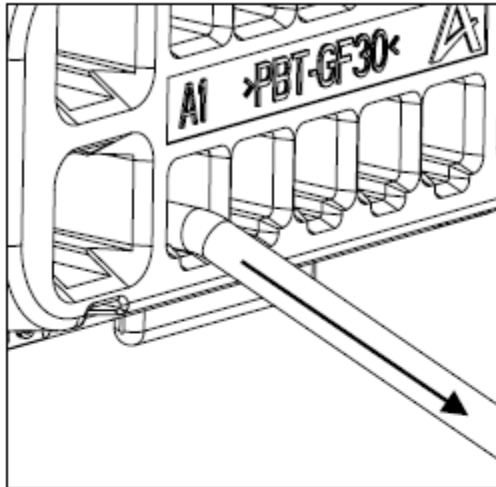

Figure 8
- While maintaining pressure on the service tool, the selected terminal may be removed from the rear of the connector by pulling it out by the wire. To help maintain seal integrity, if possible, pull the wire at a small angle away from the connector center as shown in Fig 8 (Not required for 2.8mm terminals). *NOTE: Terminal removal should require only a gentle pulling force applied to the wire. If the terminal stays retained or seems "stuck", try reinserting the service tool.*